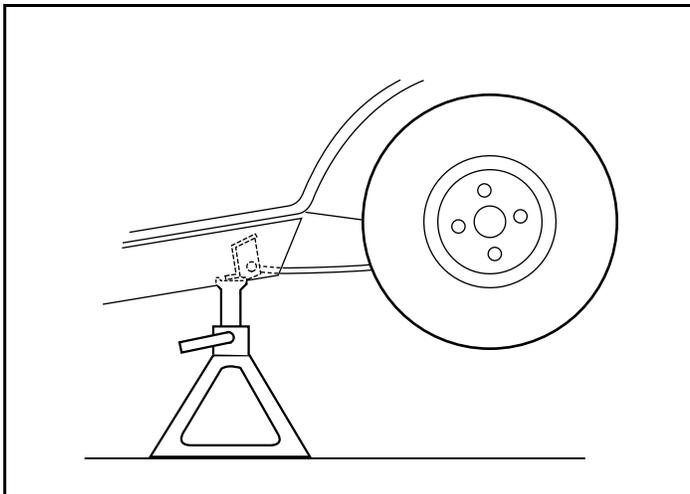

Figure 28-6 Vehicle Supported on Jack Stands
3. Place a floor jack under the transaxle and raise the rear of the vehicle. Position jack stands under the frame crossmember between the spring mount and the side stringer, just forward of each rear wheel. Lower the vehicle to let the jack stands support the vehicle (**Figure 28-6, Page 28-5**). **See WARNING “Lift only one end of the vehicle...” in General Warning on page 1-1.**